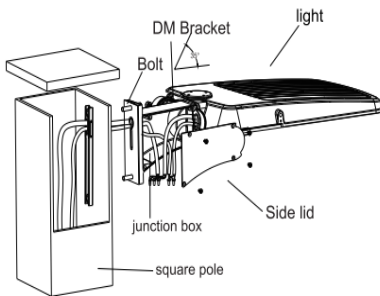

Figure 7
Step 1: Fix DM Bracket to square pole with bolt, open the side lid of DM bracket, pull the wire into junction box, and connect the wire correctly. (Figure 7)
Notice: Adjustable angle is 0-35°(Figure 7).